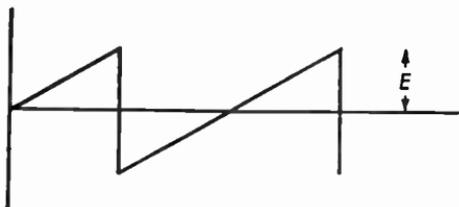

Fig. 11.43 Saw-tooth wave.
11.43 The Fourier analysis of the saw-tooth wave of Figure 11.43 yields the following harmonic components: